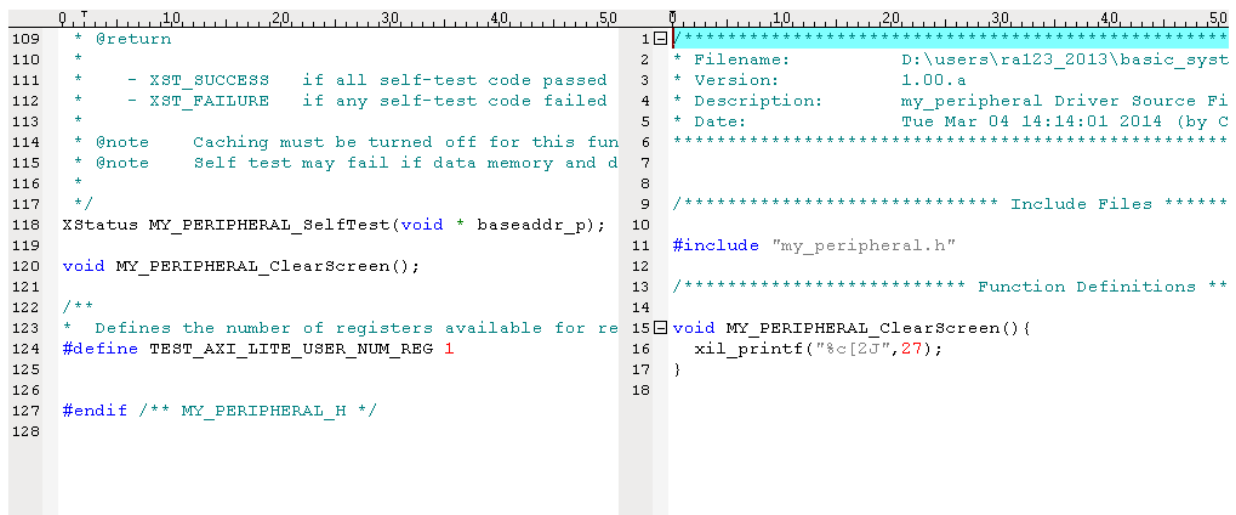

Figure 40: Add Driver Function
1. In *..\drivers\my\_peripheral\_v1\_00\_a\src\my\_peripheral.h* header file, add the following function declarations below the self-test function *my\_peripheral\_SelfTest* as shown in Figure 40.